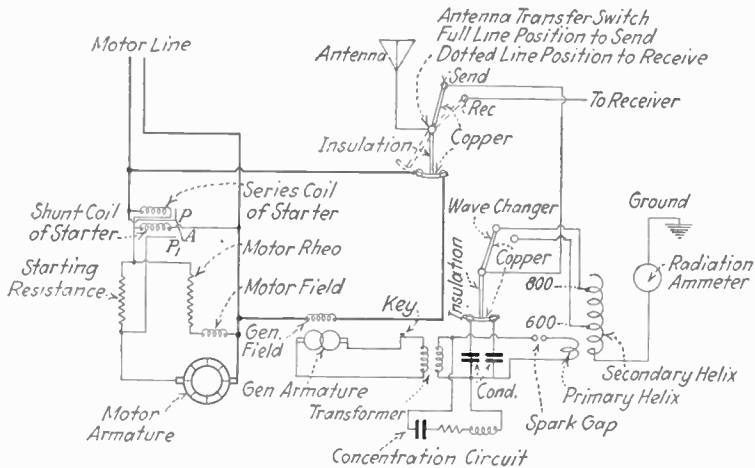

FIG. 30.—Wiring diagram of an impact transmitter.
*Ans.* A wiring diagram of a commercial type of impact-excitation transmitter is shown in Fig. 30.